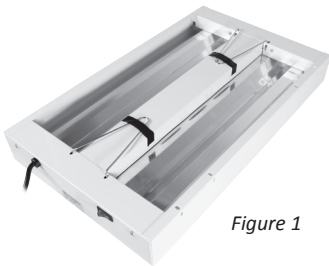

Figure 1
- For overhead hanging, use the holes and slots at the center on each end. For vertical hanging use only one of the hooks with the center end hole and slot set. See figure 1.